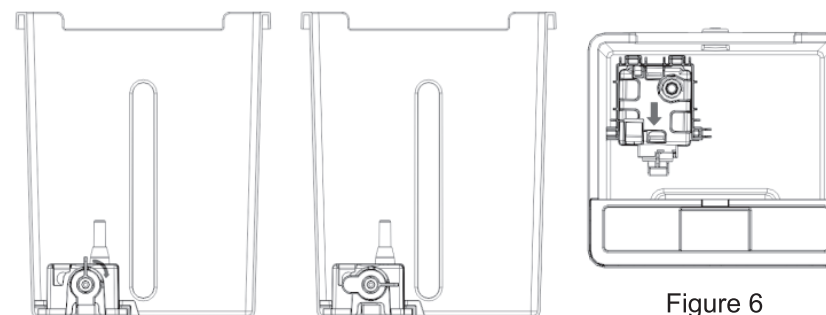

Figure 6
4. See the figure 6 for the disassembly and assembly of the water pump bracket.